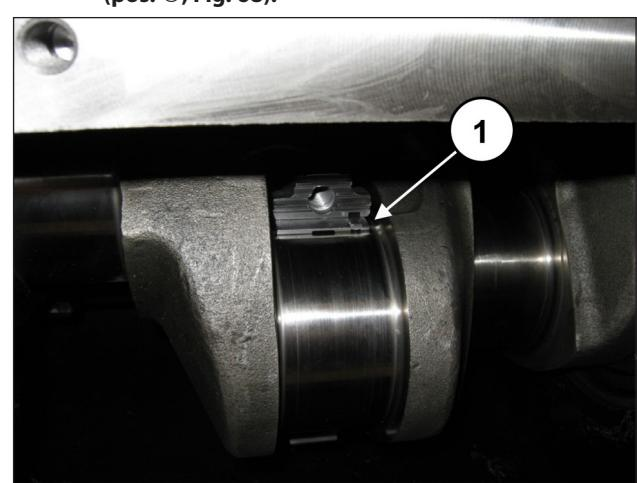

Fig. 67
Insert the upper half-conrod between the conrods and the shaft (pos. ①, Fig. 67).